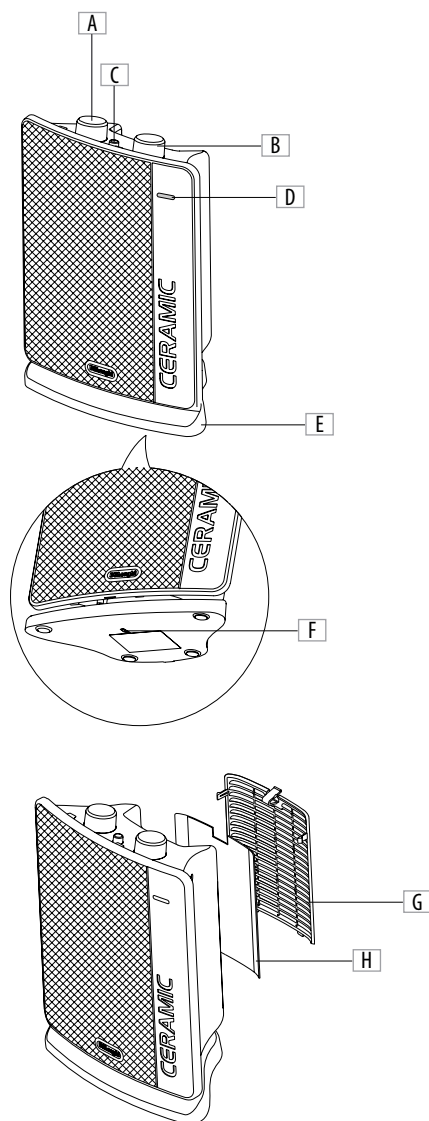

Fig. 1
- To clean the filter, remove the rear grille by pulling it outwards (fig. 1).